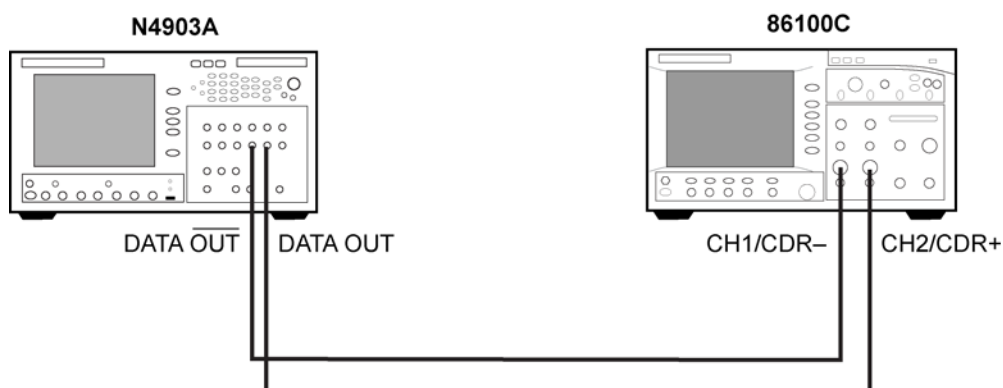

Figure 3-3. N4903A Connected to the 86100C
- 1 Connect the source instrument directly to the 86100C. Do not connect the DUT at this time. Figure 3-3 shows the connection if you are using an N4903A. If you using separate jitter and data sources, connect the equipment as shown in the example of Figure 3-4. Connect the source's output signal to the appropriate on the 86100C clock recovery input as described in “Clock Recovery Inputs” on page 3-3.